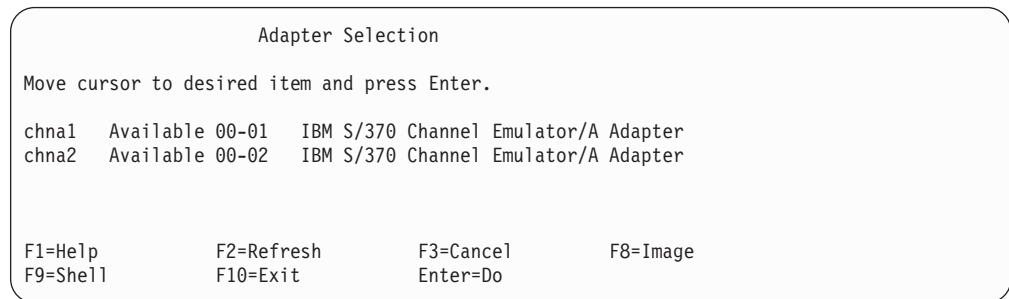

Figure 6. SMIT Adapter Selection Panel
3. Select Load Driver onto S/370 Channel Emulator/A Adapter. The Adapter Selection panel (Figure 6) displays.